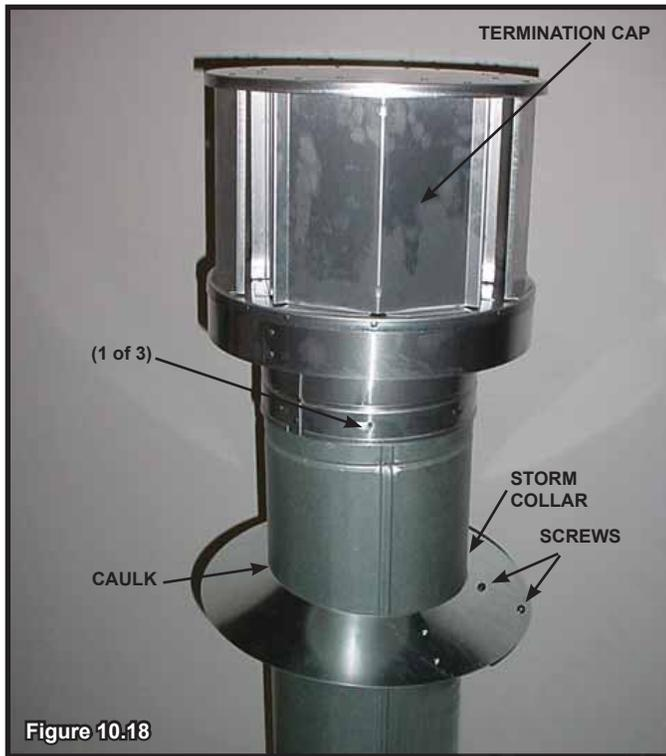

Figure 10.18
- Secure the cap by driving three self-tapping screws (supplied) through the pilot holes in the outer collar of the cap into the outer flue of the pipe (see Figure 10.18).
- **DO NOT** remove the heat shields attached to the wall shield firestop and the horizontal termination cap (shown in Figure 10.18).
There are two sections of the heat shield. One section is factory-attached to the wall shield firestop. The other section is factory-attached to the cap. See Figure 10.18.